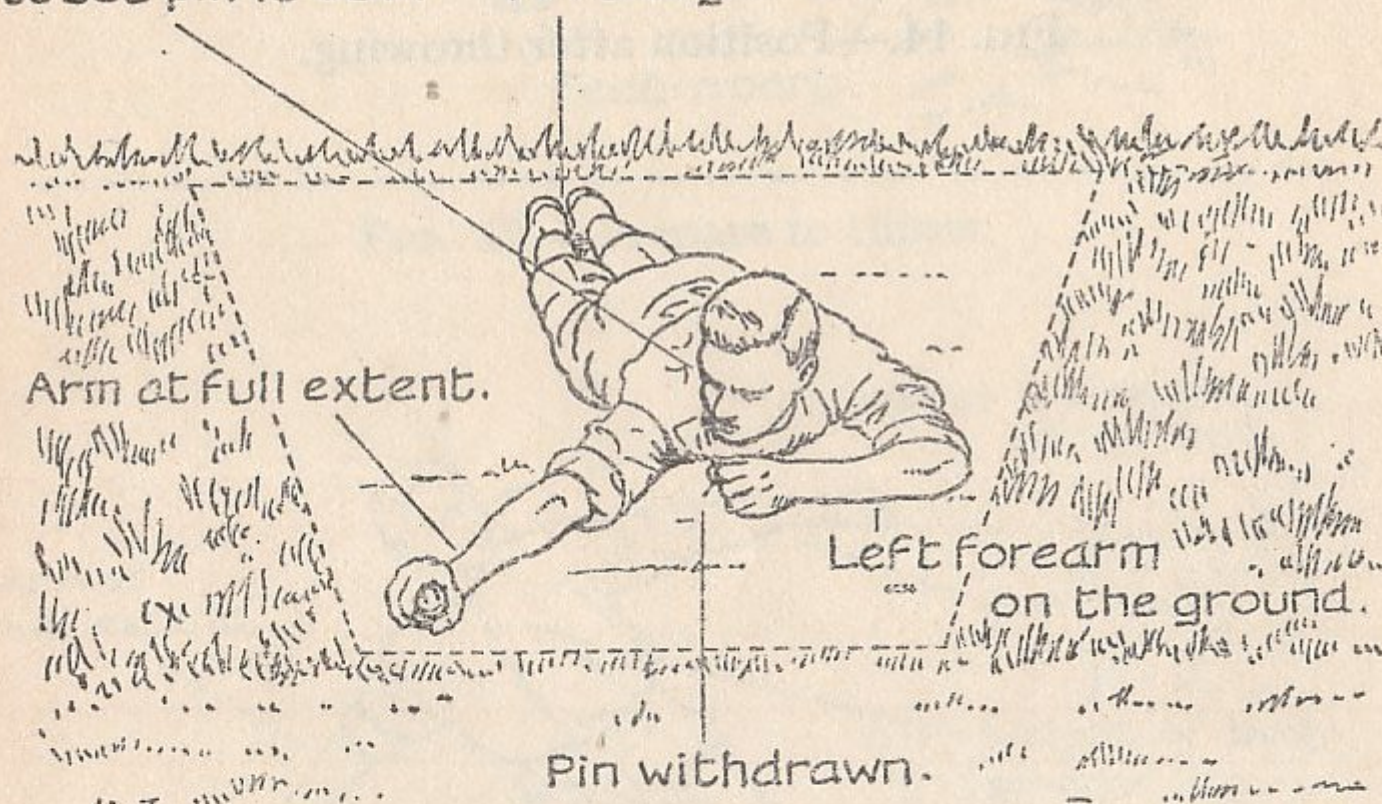

FIG. 15.—Prepare to throw.
1. Explain that, owing to the nature of the cover, the grenade may be thrown from the lying position (see Figs. 15 to 17).